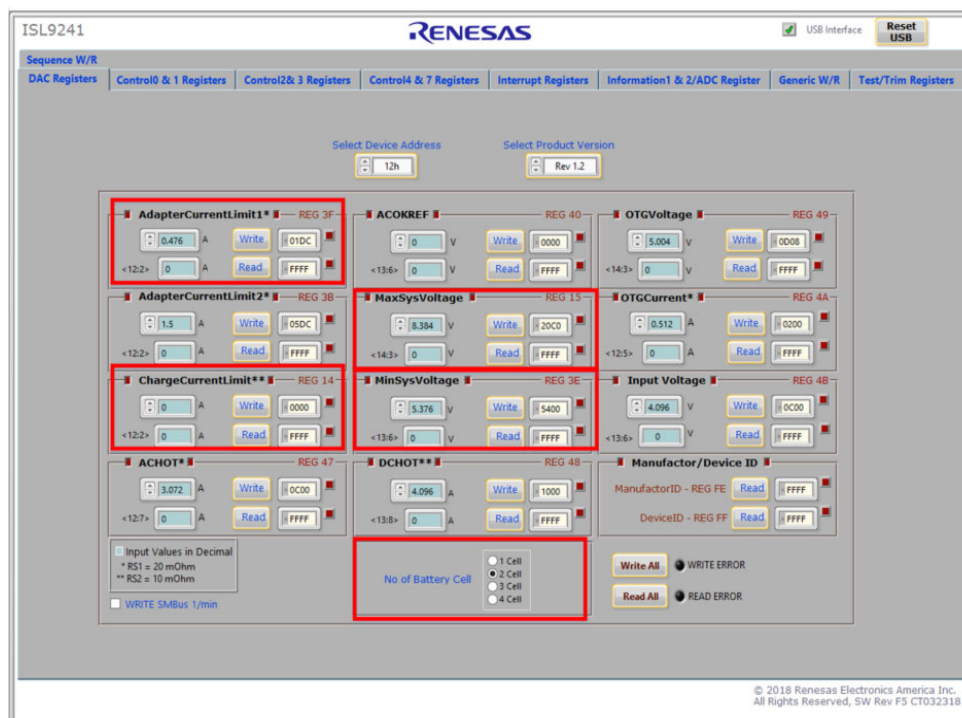

Figure 8. ISL9241 GUI
The number of battery cell and adapter current limit default values can be configured with a standard 1% 0603 resistor ( $R_{23}$ ) from the PROG pin to GND. The *Prog Pin Programming Options* table in the ISL9241 datasheet shows the programming options. After the default number of cells in series is set, the default values for MaxSystemVoltage and MinSystemVoltage are set accordingly. These values can also be changed through the SMBus control registers, which are implemented with the Renesas GUI shown in Figure 8 on page 10.
4. Turn on the power supply; LED3 goes out. Turn on the battery emulator and open the Renesas ISL9241 GUI (Figure 8).